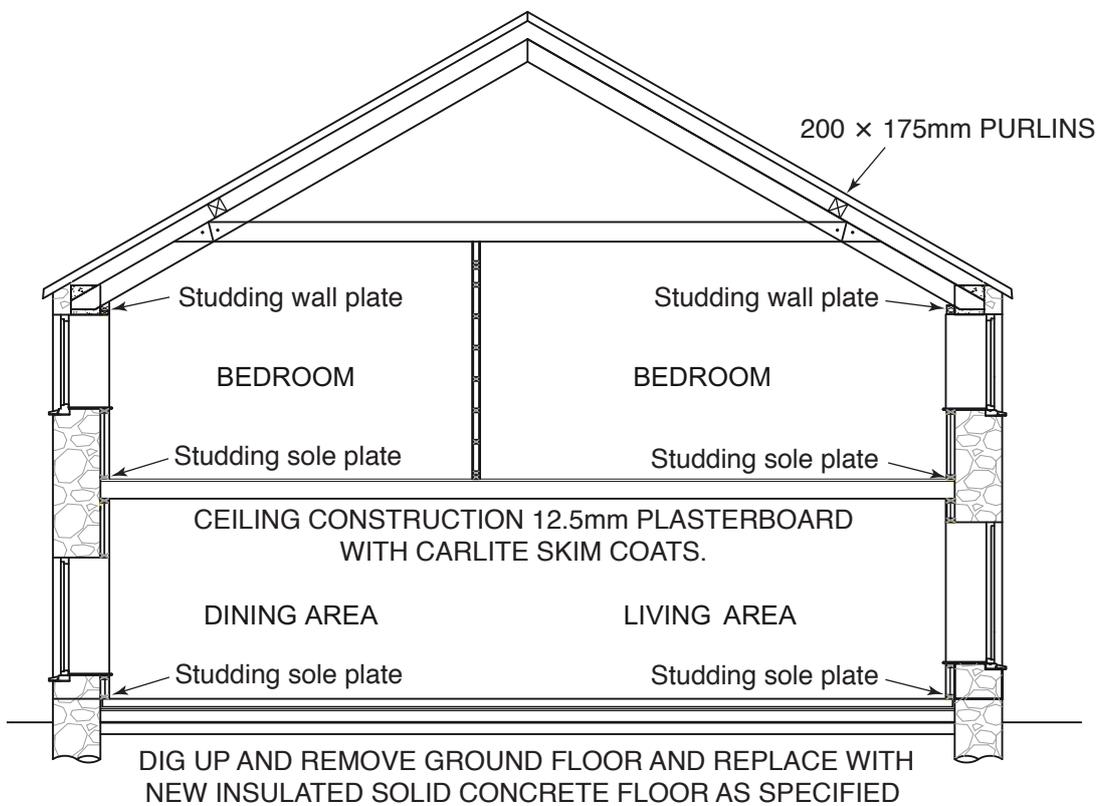

Fig. 1
- 1 (a) Label the cross section in **Fig.1** below using the following terms